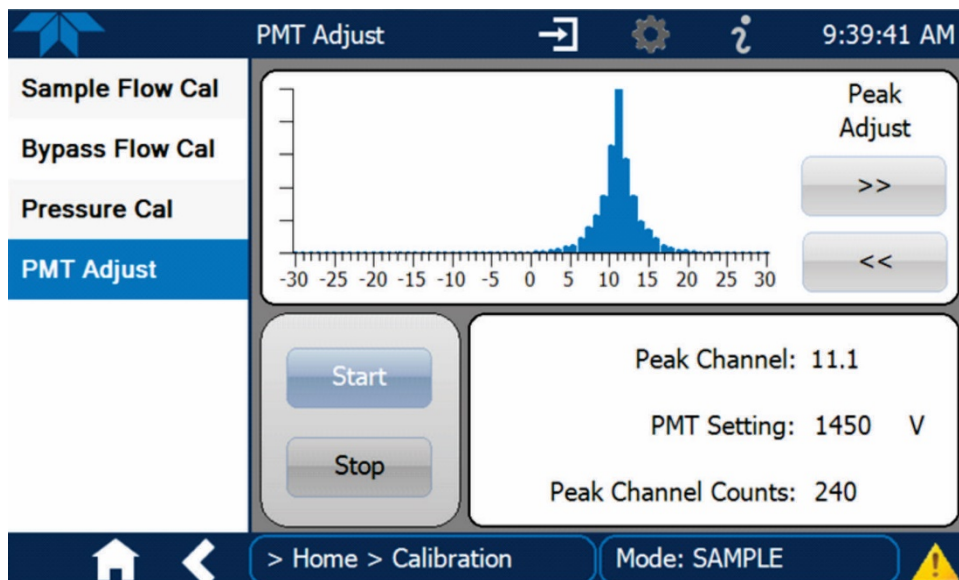

Figure 16. PMT adjust screen
7. Gently tap the SpanDust™ bottle to barely agitate the contents just enough to allow the dust to be pulled into the sensor, and allow 30 seconds for the Peak Channel reading in this screen to respond (Figure 16).